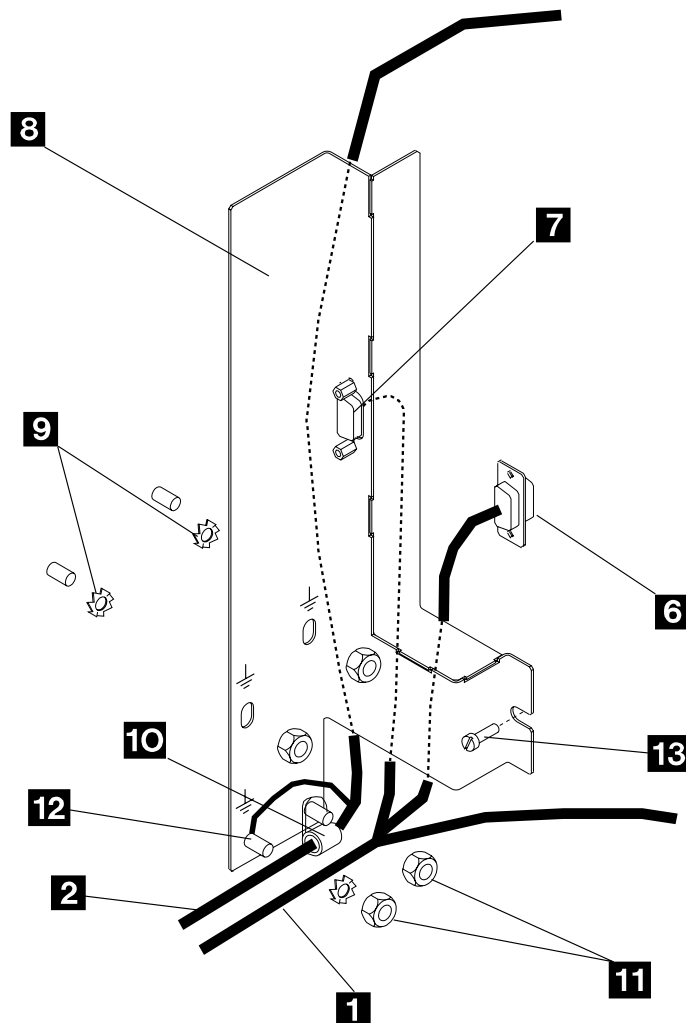

Figure 6-3. Power Control Cable Cover Installation
- Step e. \_\_\_\_ Plug connector **6** to J2 located on the 3745 frame (see Figure 6-3).